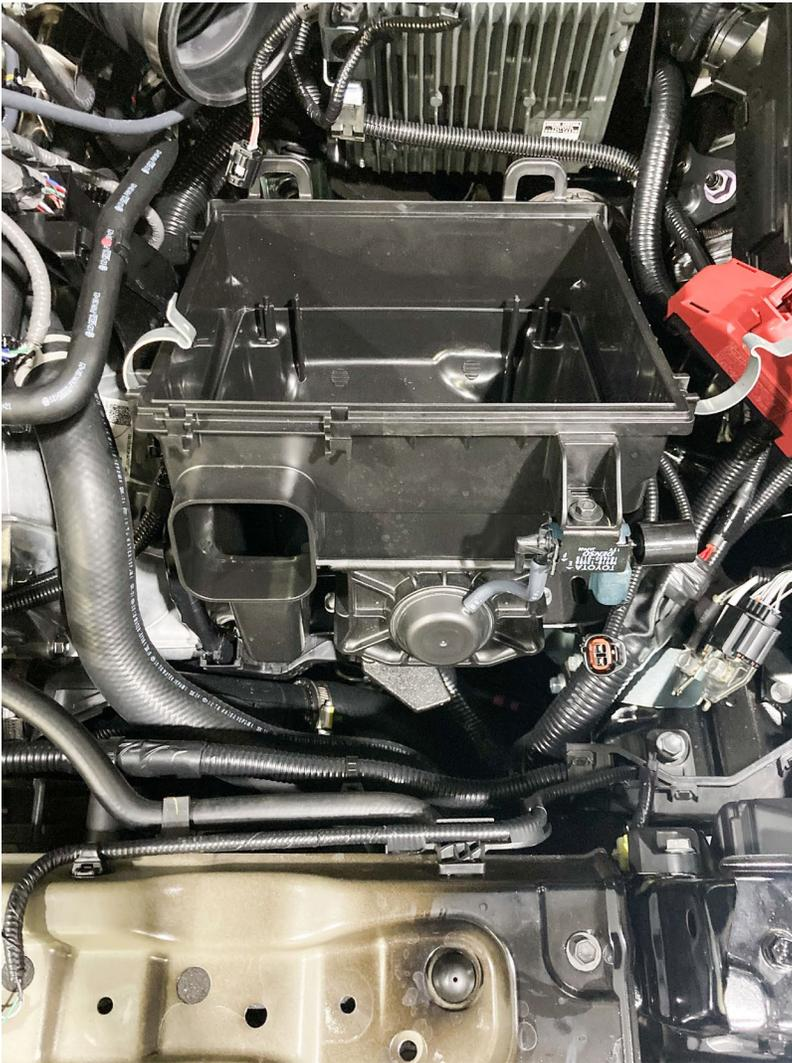

Figure 4
4. Remove upper portion of OEM air box and filter. Remove final wire routing clip on side of air box. (Fig 4)